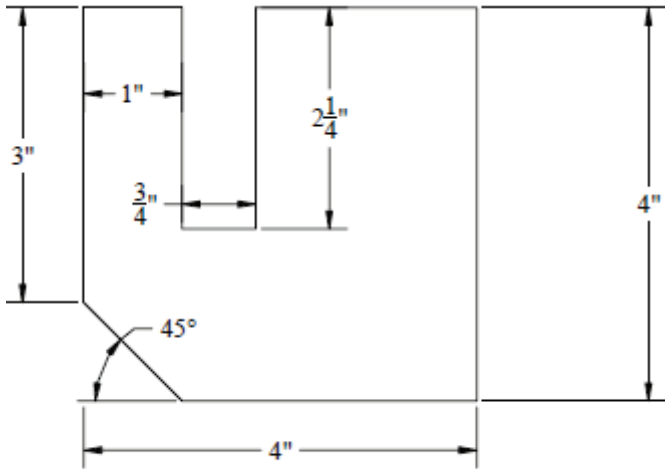
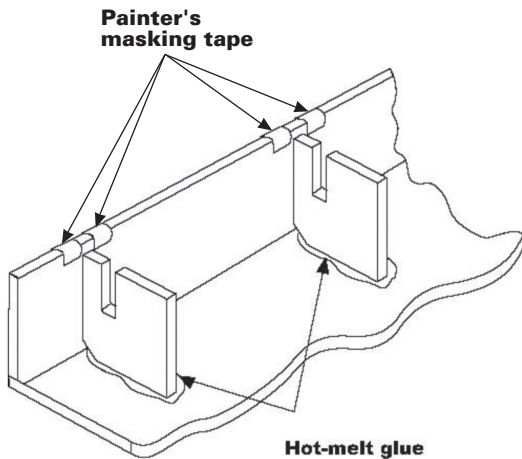
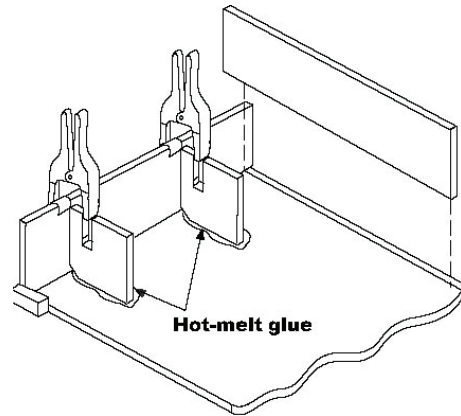

Figure B-1: Squaring Block
Figure B-2
Figure B-3
To use the squaring blocks, position with the 45 degrees cut near the cove, at 12" to 14" (300 mm to 350 mm) intervals. Adjust the splash piece so that blocks rest flush against backsplash and deck. Apply hot-melt adhesive where block rests on deck. See Figure B-2.
12. Hot-melt squaring blocks (see Figure B-1) every 6" to 12" (150 mm to 300 mm) as needed to hold backsplash in 90° position. This is shown in Figure B-2 and Figure B-3.